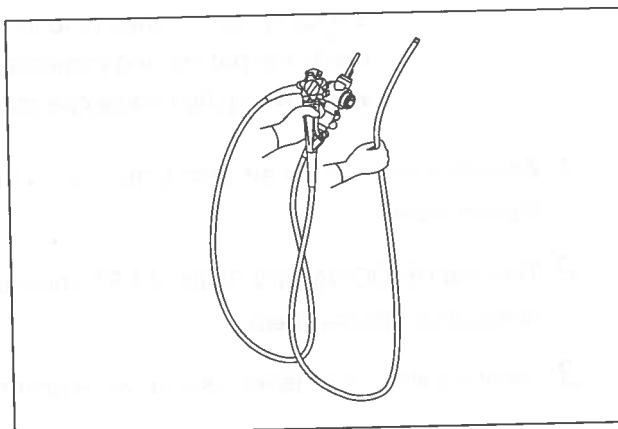

Figure 4.6
3. When carrying the endoscope by hand, loop the universal cord, hold the endoscope connector together with the control section in one hand and hold the distal end of the insertion tube securely, but gently without squeezing, in the other hand (see Figure 4.6).